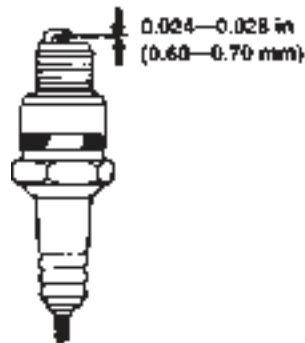

Figure 18. Spark Plug Gap
5. Set the spark plug gap (Figure 18) using a suitable gauge. The gap should be between 0.024-0.028 inch (0.60-0.70 mm).